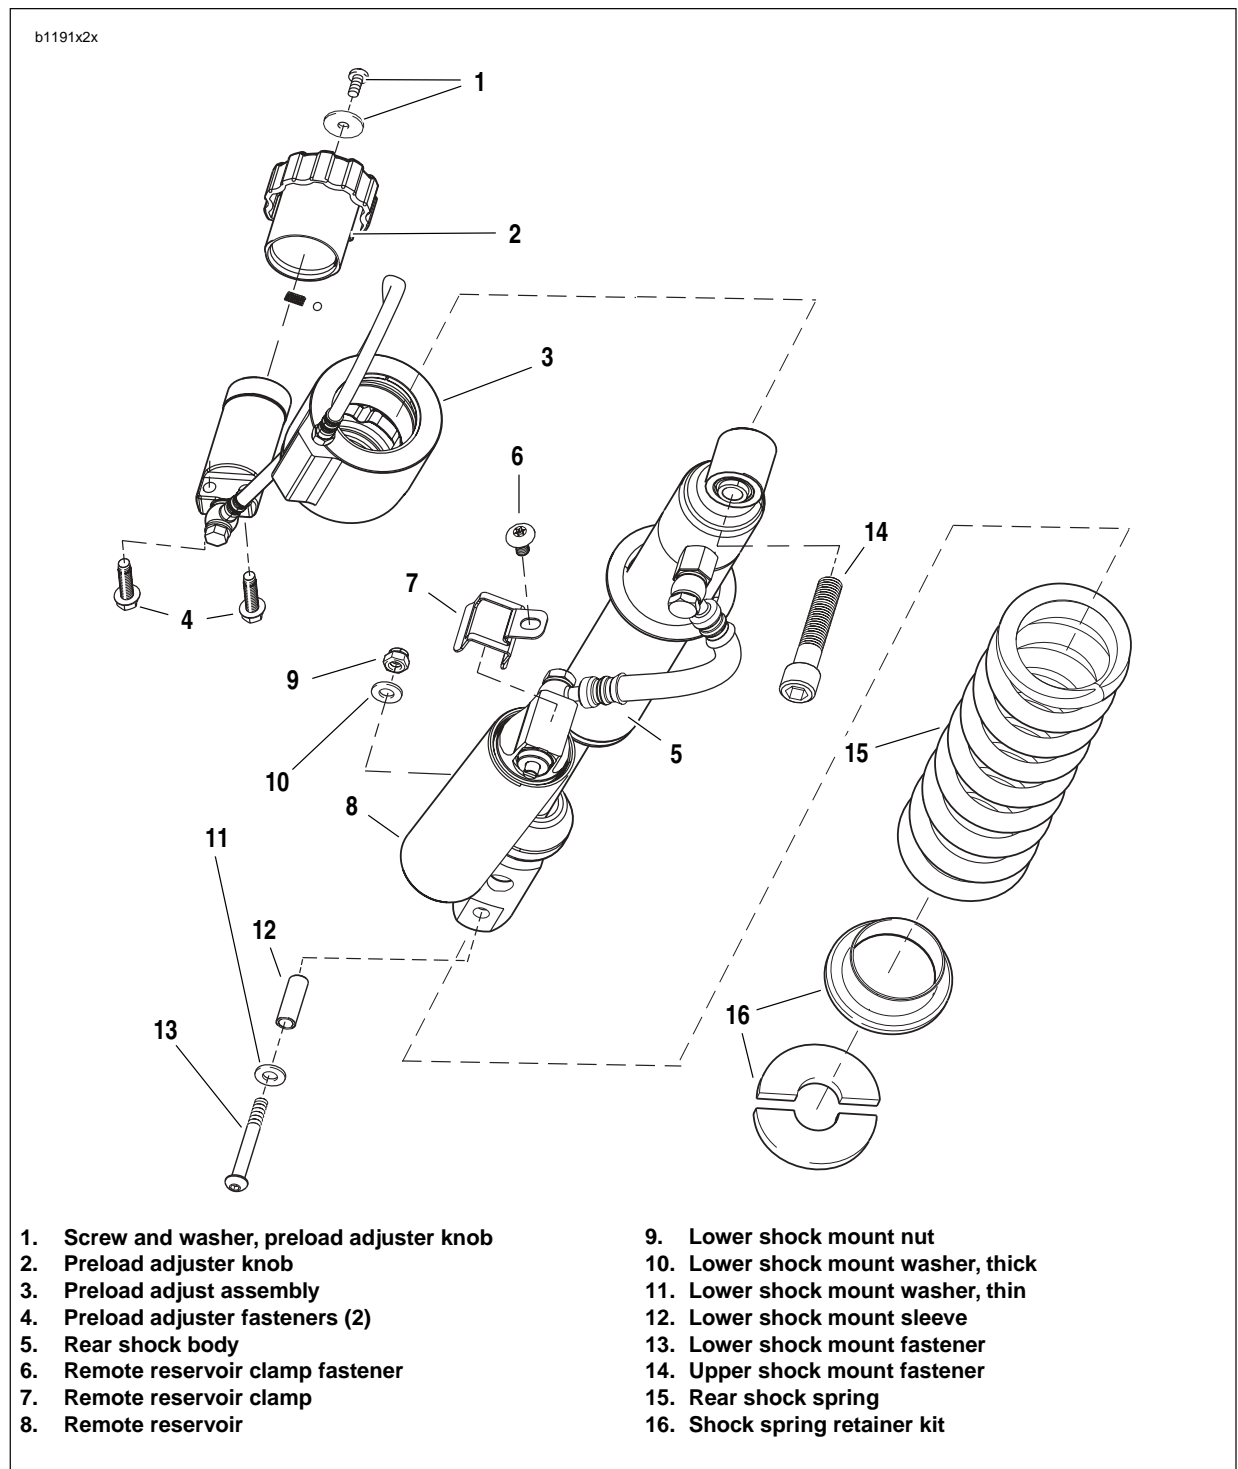

Figure 2-93. Rear Shock Absorber Assembly
7. See Figure 2-93. Remove reservoir retainer fastener (6) and retainer (7).
8. Remove the two fasteners (4) holding the preload adjuster in place.
9. Remove the nut (9) and thick washer (10) from the lower shock bolt and raise scissor jack until the lower bolt can be removed by hand.
1. See Figure 2-93. Lower rear shock assembly, preload adjuster assembly and remote reservoir into position.